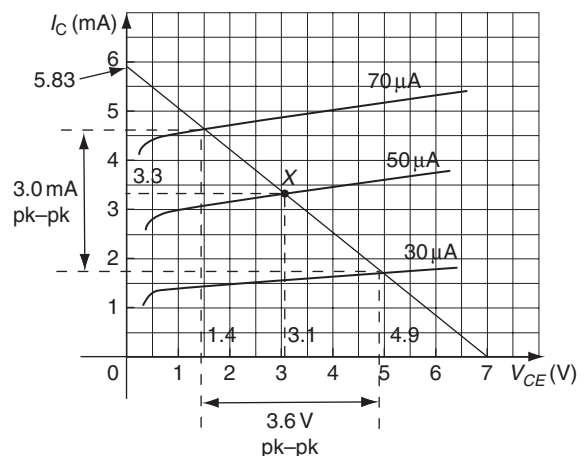

Figure 12.26
The characteristics are drawn as shown in Fig. 12.26.
- (b) The maximum and minimum values of collector-emitter voltage may be determined by locating the appropriate intercept points on Fig. 12.26. Note that the maximum and minimum values of base current will be $(50 \mu\text{A} + 20 \mu\text{A}) = 70 \mu\text{A}$ on positive peaks of the signal and $(50 \mu\text{A} - 20 \mu\text{A}) = 30 \mu\text{A}$ on negative peaks of the signal. The maximum and minimum values of V_{CE} are, respectively, 4.9 V and 1.4 V. Hence,
From Figure 12.26, the output current swing, i.e. the change in collector current, $\Delta I_C = 3.0 \text{ mA}$ peak to peak. The input base current swing, the change in base current, $\Delta I_B = 40 \mu\text{A}$.